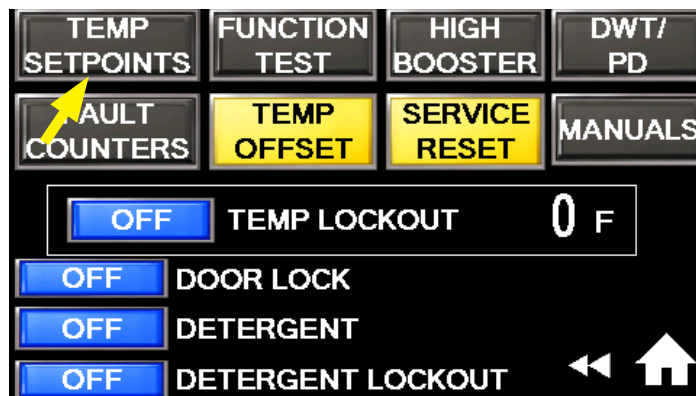

Fig. 67a - Maintenance menu
1. Press the TEMP SET POINTS button, (Fig. 67a).